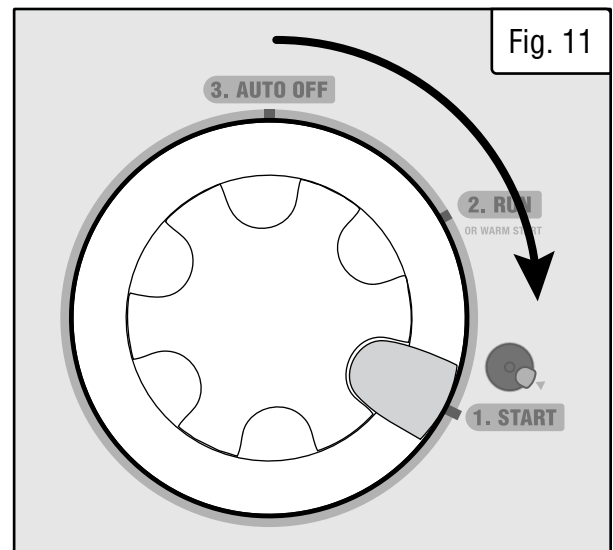

Fig. 11
2. Turn the 3-in-1 dial switch (Fig. 11) to the “START” position.